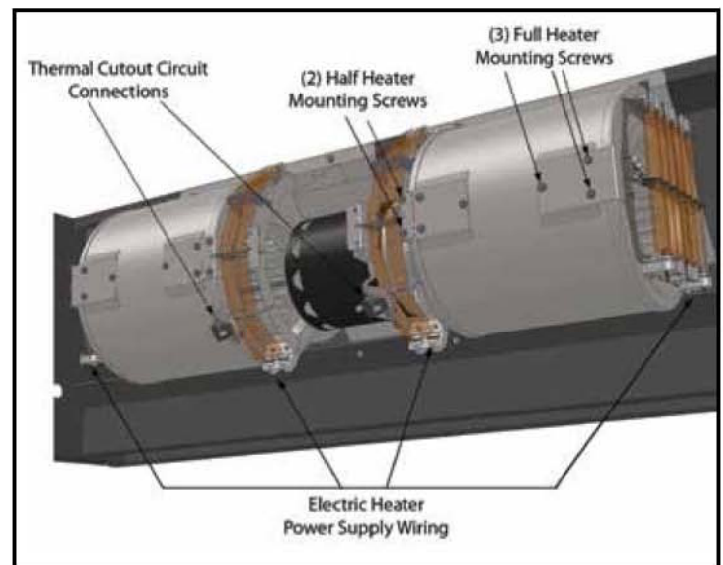

FIGURE 14- Location of screws
unit has electric heat, label and remove power wires and thermal cutout circuit wires from the heater assemblies. **See Figure 14.**
2. **See Figure 14.** There are (4) heater assemblies per Blower Module. All have (2) power connections. The "Half" heater assemblies also have (2) connections for the thermal cutout circuit. Label and remove all wires on the heaters to be replaced.
3. The (2) "Full" heaters are each held in place by (3) self-drilling screws that go through the heater mounting bracket into the fan housing. The (2) "Half" heaters are each held in place by (2) self-tapping screws that go through the heater frame into the mounting bracket that is attached to the fan housing. Remove all fasteners on the heaters to be replaced.